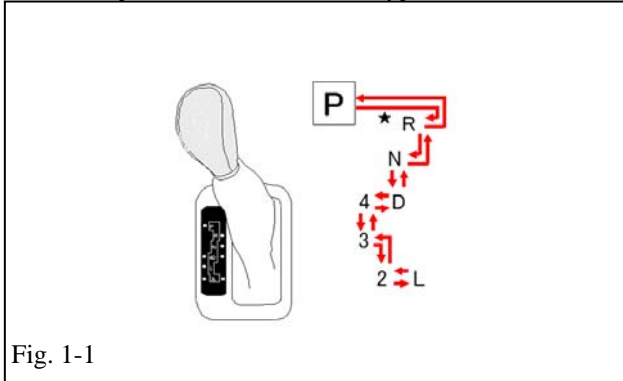

Fig. 1-1
-  (b) Put automatic transmission in "P" (Fig. 1-1). Put manual transmission in "R".